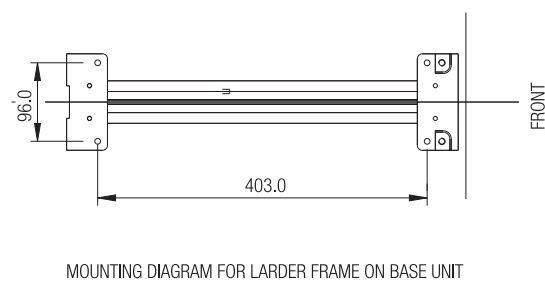

Fig. 2
2. Frame is to be mounted onto Base unit as per Fig 2. Use M6 x 20 hex. bolts.